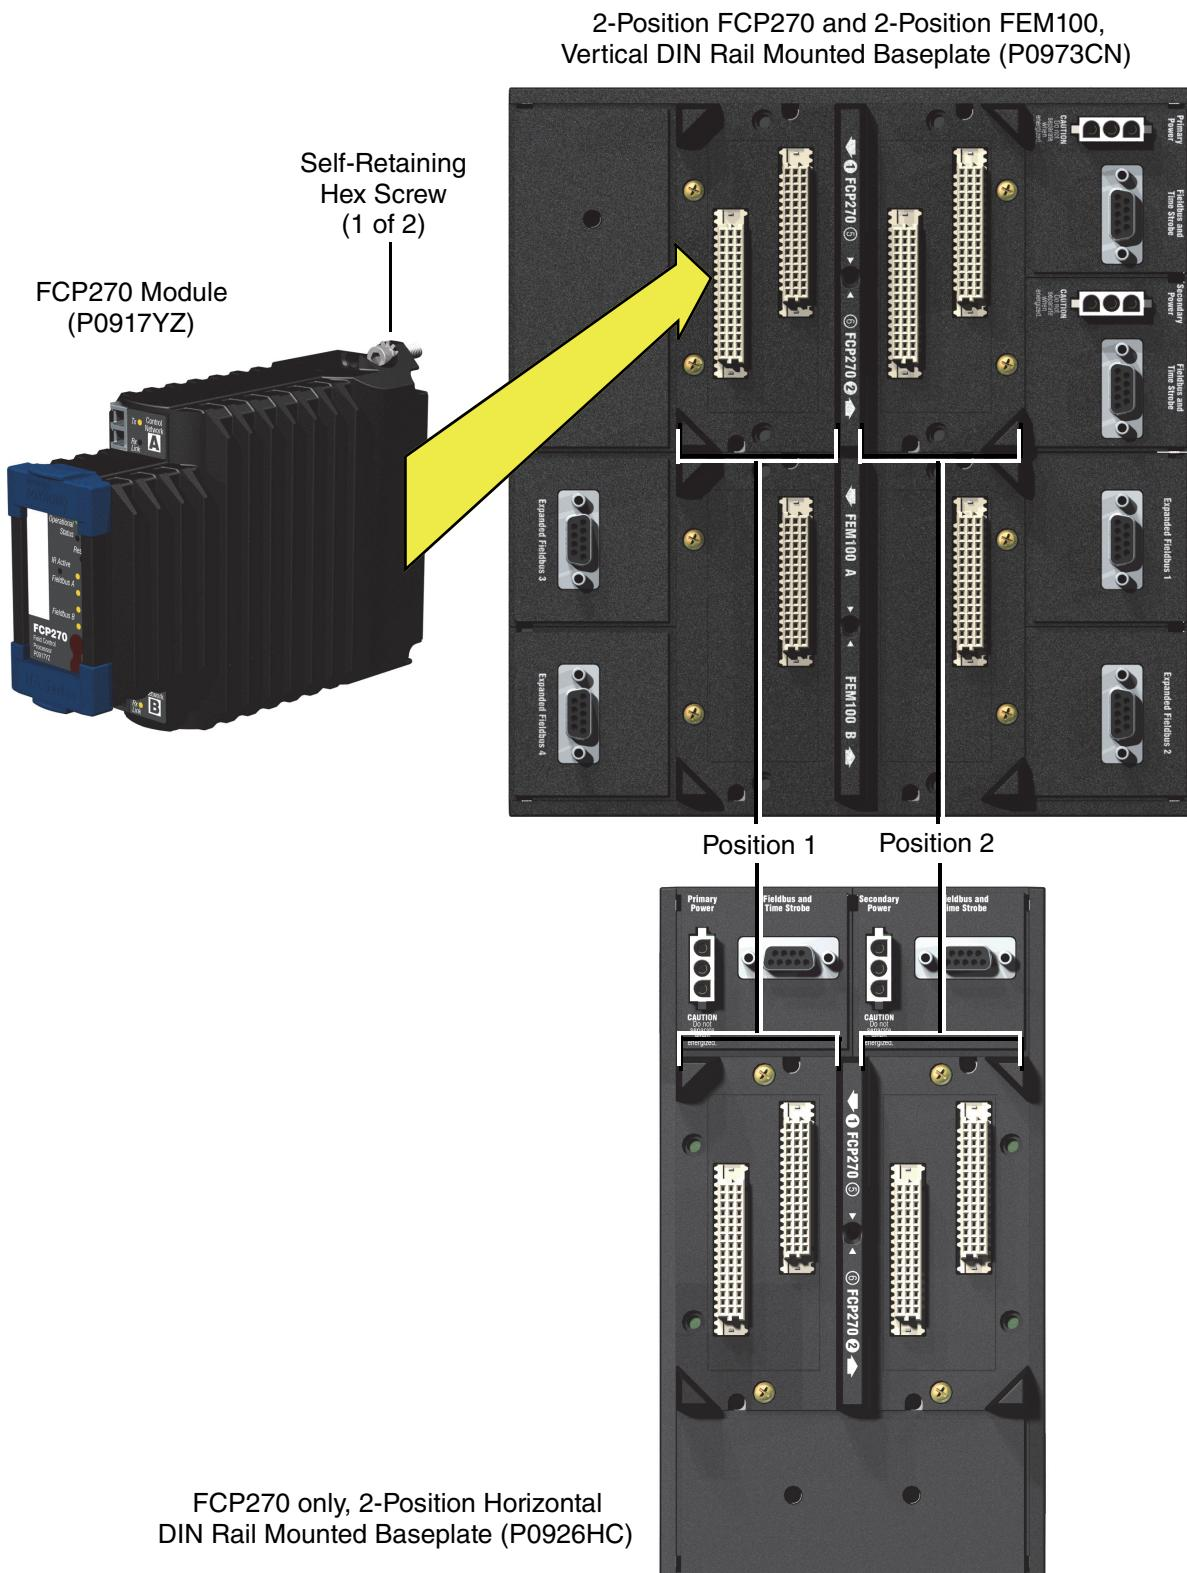

Figure 2-1. FCP270 Module Installation (Typical)
Figure 2-1 shows how to install a single (non-fault tolerant) or primary (fault-tolerant) FCP270 module on two example FCP270 modular baseplates (P0926HC and P0973CN).
1. The FCP270 can only be plugged into a baseplate connector that specifically supports the FCP270. These baseplate slots are labeled "FCP270" (see Figure 2-1). For example, the 4-position P0973CN modular baseplate supports two FCP270 modules and two FEM100 modules, but their connectors are physically different to prevent a module from being installed in the wrong connector.